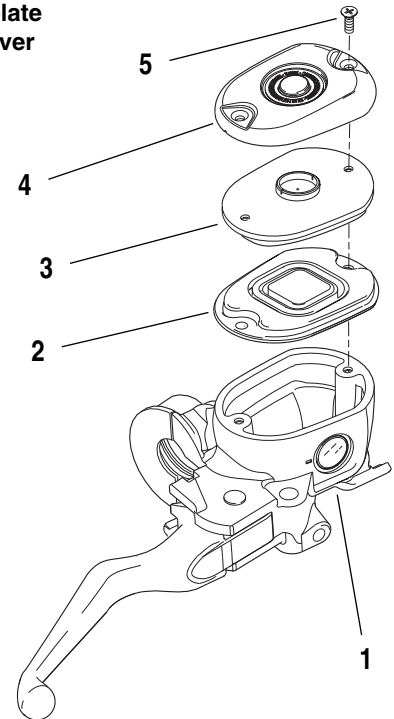

Figure 1-30. Front Brake Master Cylinder Cover Assembly
2. See Figure 1-30. Remove two screws (5), reservoir cover (4), diaphragm plate (3) and diaphragm (2) from master cylinder reservoir (1).